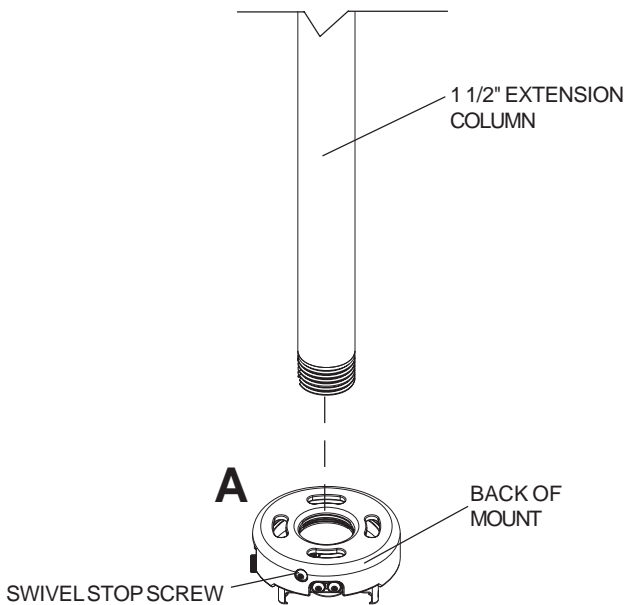

fig. 2.1
**3** Screw projector mount assembly (A) onto extension column (sold separately) as shown in **figure 2.1**. **Note:** For 3/4" extension columns, reducer **ACC 913** will be required as shown in **figure 2.2**. Tighten swivel stop screw against extension column or reducer using 4 mm allen wrench (S). **Note:** Swivel stop screw is used to jam against threads of extension column or reducer to prevent any excess movement of projector mount assembly (A). Do not overtighten screw; overtightening screw will damage threads making it difficult to separate products.